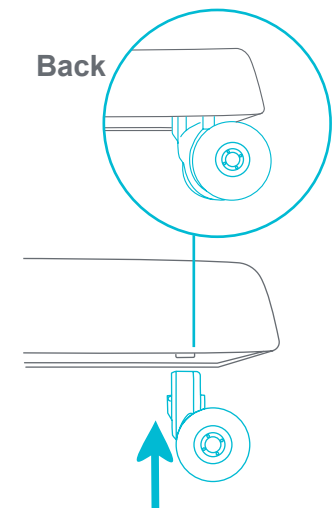

Fig. 6
- 6 • Insert the pins of the rear wheels into their housing, pressing them until they snap into position. Please check that wheels are locked into place before proceeding (Fig. 6).**